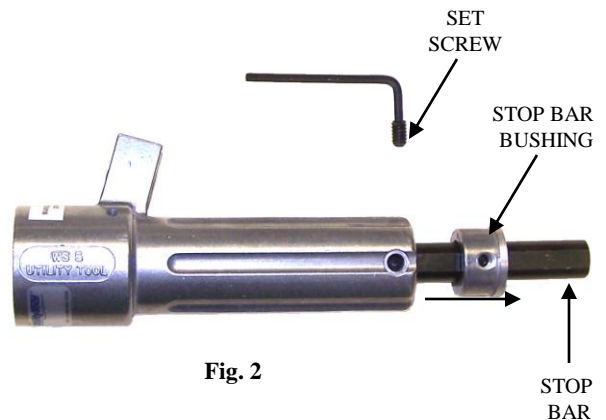

Fig. 2
Step 2 (Fig. 2) Pull the graduated stop bar and stop bar bushing out of the backside of the tool body.